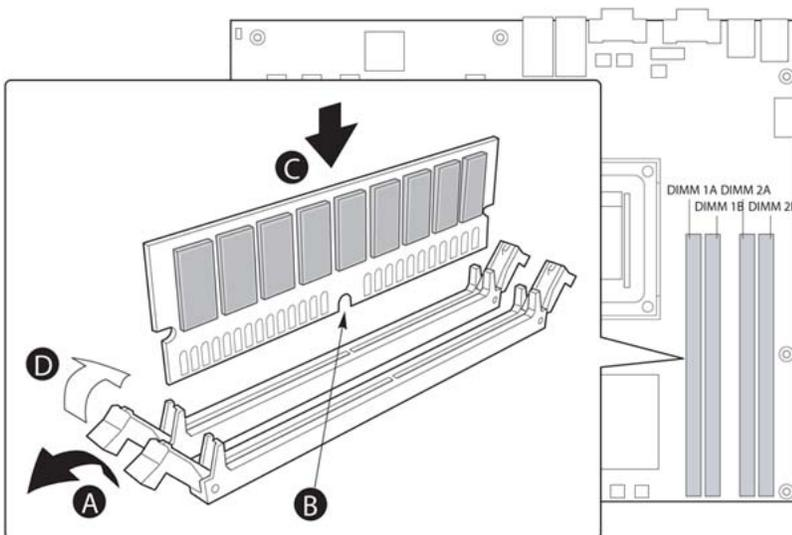

Figure 24: Memory DIMM locations
4. Locate memory banks 1A AND 1B on the server board. For details, see Figure 24: Memory DIMM locations on page 88.